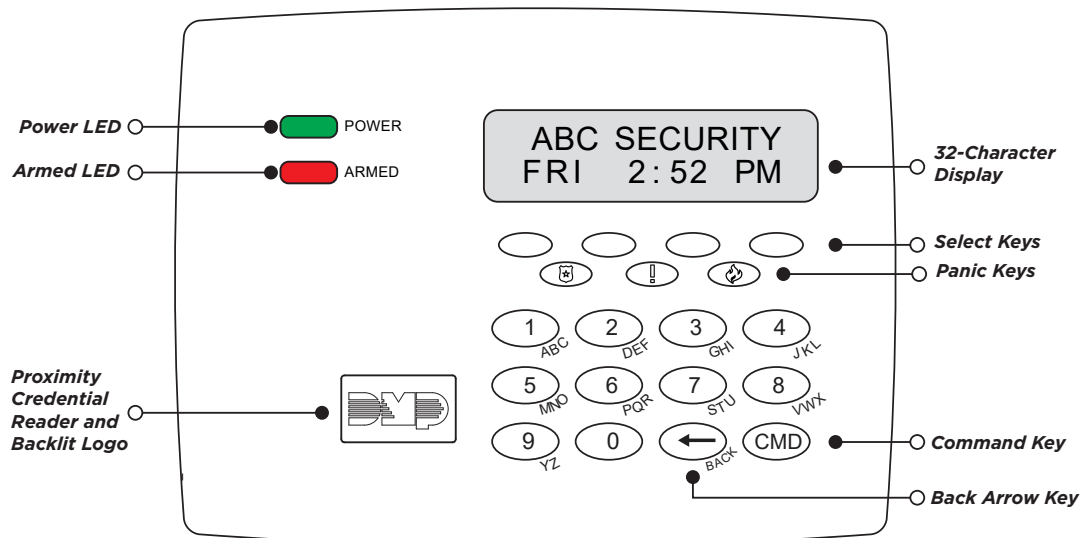

Figure 7: 7100 Series LCD Keypad
1. Route the keypad wires through the cutouts in the base. See Figure 7.